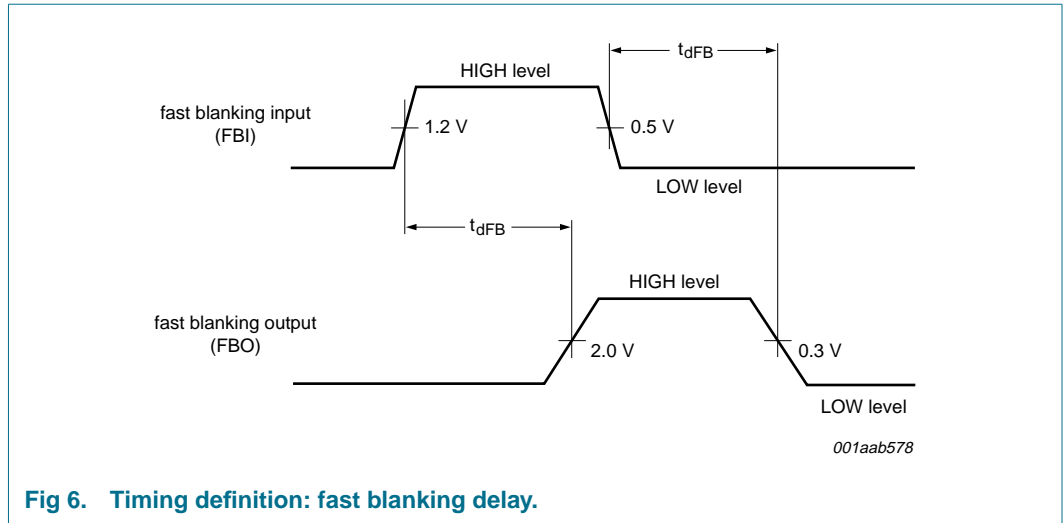

Fig 6. Timing definition: fast blanking delay.
- [6] The fast blanking delay between input and output is illustrated in Figure 6.